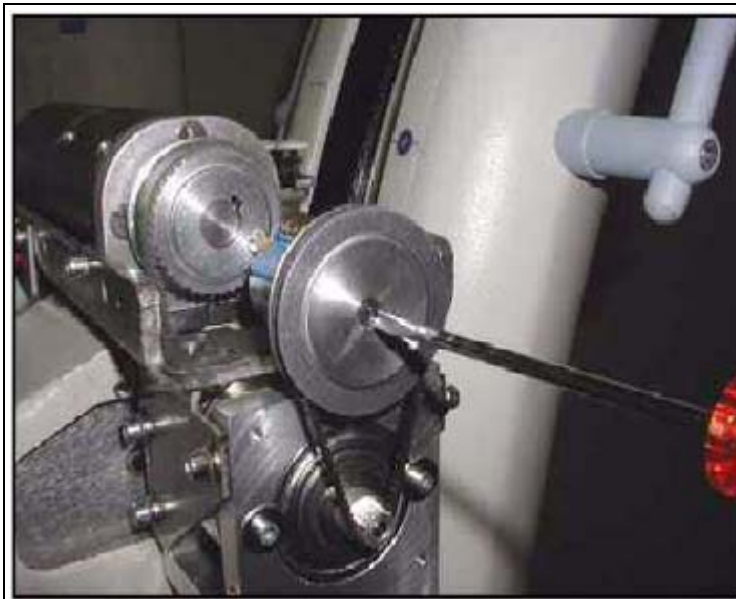

Fig. 35: Belt of the actual value potentiometer 2
3. Using a screwdriver, turn the actual value potentiometer counterclockwise to the end stop (Fig. 35 / p. 76).